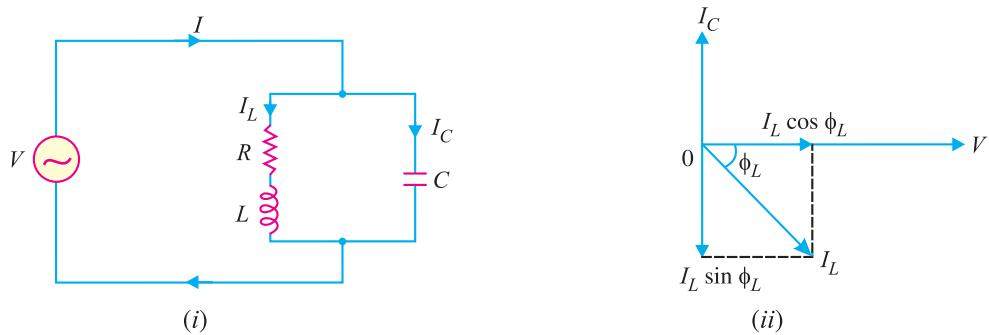

Fig. 15.4
A parallel tuned circuit consists of a capacitor  $C$  and inductor  $L$  in parallel as shown in Fig. 15.4 (i). In practice, some resistance  $R$  is always present with the coil. If an alternating voltage is applied across this parallel circuit, the frequency of oscillations will be that of the applied voltage. However, if the frequency of applied voltage is equal to the natural or resonant frequency of  $LC$  circuit, then **electrical resonance** will occur. Under such conditions, the impedance of the tuned circuit becomes maximum and the line current is minimum. The circuit then draws just enough energy from a.c. supply necessary to overcome the losses in the resistance  $R$ .
**Parallel resonance.** A parallel circuit containing reactive elements ( $L$  and  $C$ ) is \*resonant when the circuit power factor is unity *i.e.* applied voltage and the supply current are in phase. The phasor diagram of the parallel circuit is shown in Fig. 15.4 (ii). The coil current  $I_L$  has two rectangular components *viz* active component  $I_L \cos \phi_L$  and reactive component  $I_L \sin \phi_L$ . This parallel circuit will resonate when the circuit power factor is unity. This is possible only when the net reactive component of the circuit current is zero *i.e.*